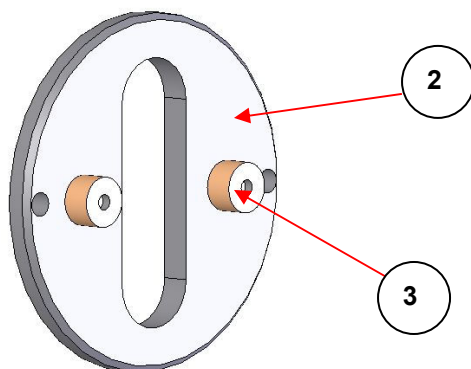

Fig. 3 Cover plate of Electrical Heating Jacket
4. Replace the front clamp plate (2) using the quick-fit nuts (1) to tighten the assembly. The front clamp plate is put on such that the stand offs (in PEEK material - 3) are in contact with the face of the sample cell holder protruding from the Electrical heating Jacket. (See Fig. 3).